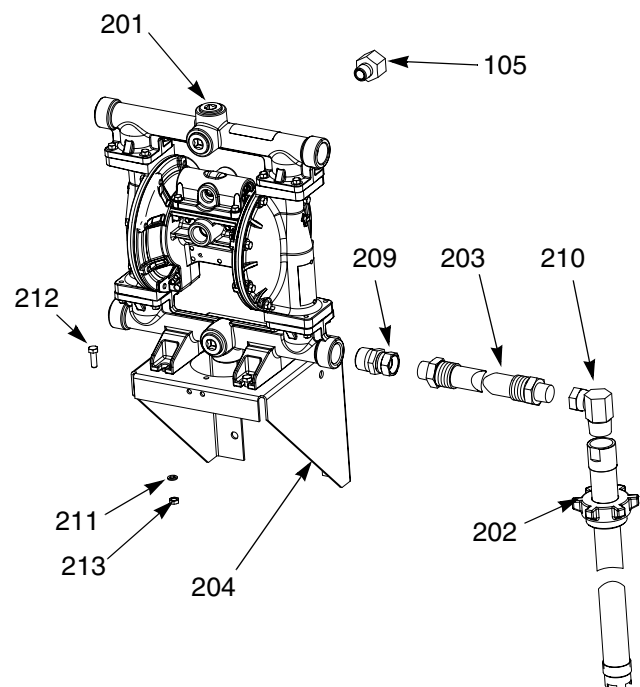
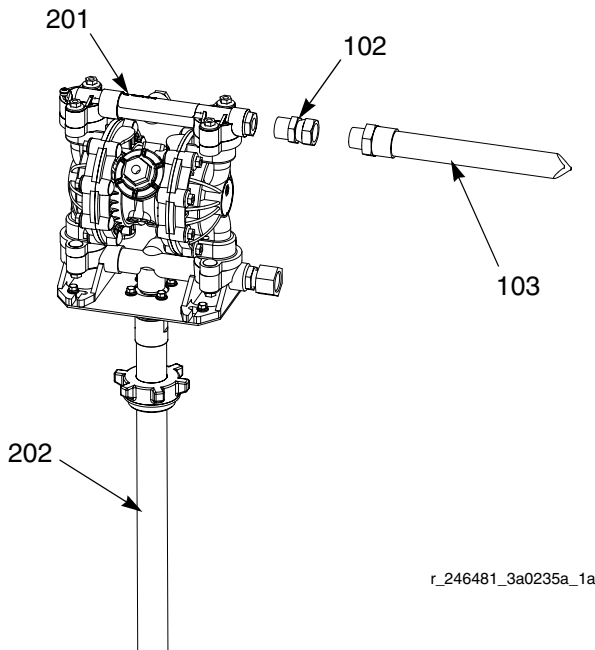

FIG. 3. Husky 1050 Wall Mount
FIG. 4. Husky 716
2. Position wall bracket (204) no more than 5 ft (1.52 m) above floor. Check that bracket is level. Attach to wall, using screws long enough to keep bracket from vibrating. See FIG. 3.
3. Connect swivel union (209) to pump inlet.
4. Install bushing (105) in pump air inlet.
5. Install pump (201) on bracket (204) securely, using screws (211), washers (210), and nuts (212).
6. Connect elbow (210) to top of riser tube kit (202).
7. Connect suction hose (203) to elbow (210) and inlet swivel (209).
8. Install swivel fitting (102) in pump fluid outlet. See FIG. 4.
9. Connect hose (103) between swivel fitting (102) and GMS™ swivel inlet fitting. See FIG. 4.